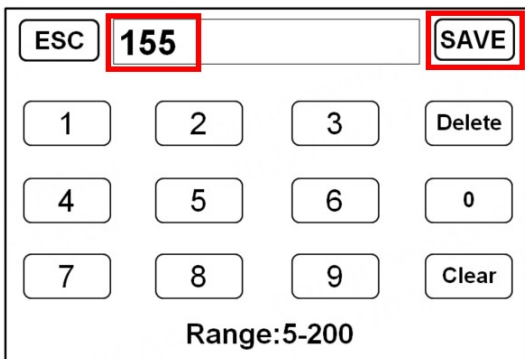
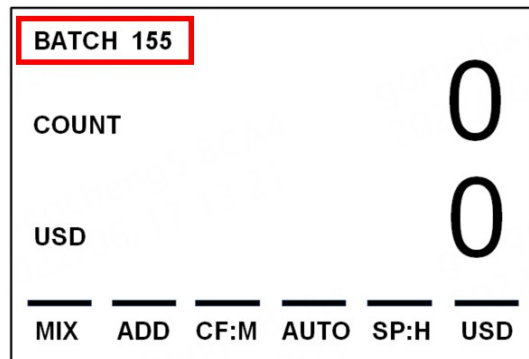

Figure 33
Figure 34
2) At this time, we enter an example value in the input field: 155, as shown in Figure 33. Click the "SAVE" key in the upper right corner of the display screen again to save. Then the machine will automatically jump to the main interface, and the current preset number also jump to 155, as shown in Figure 34 below: